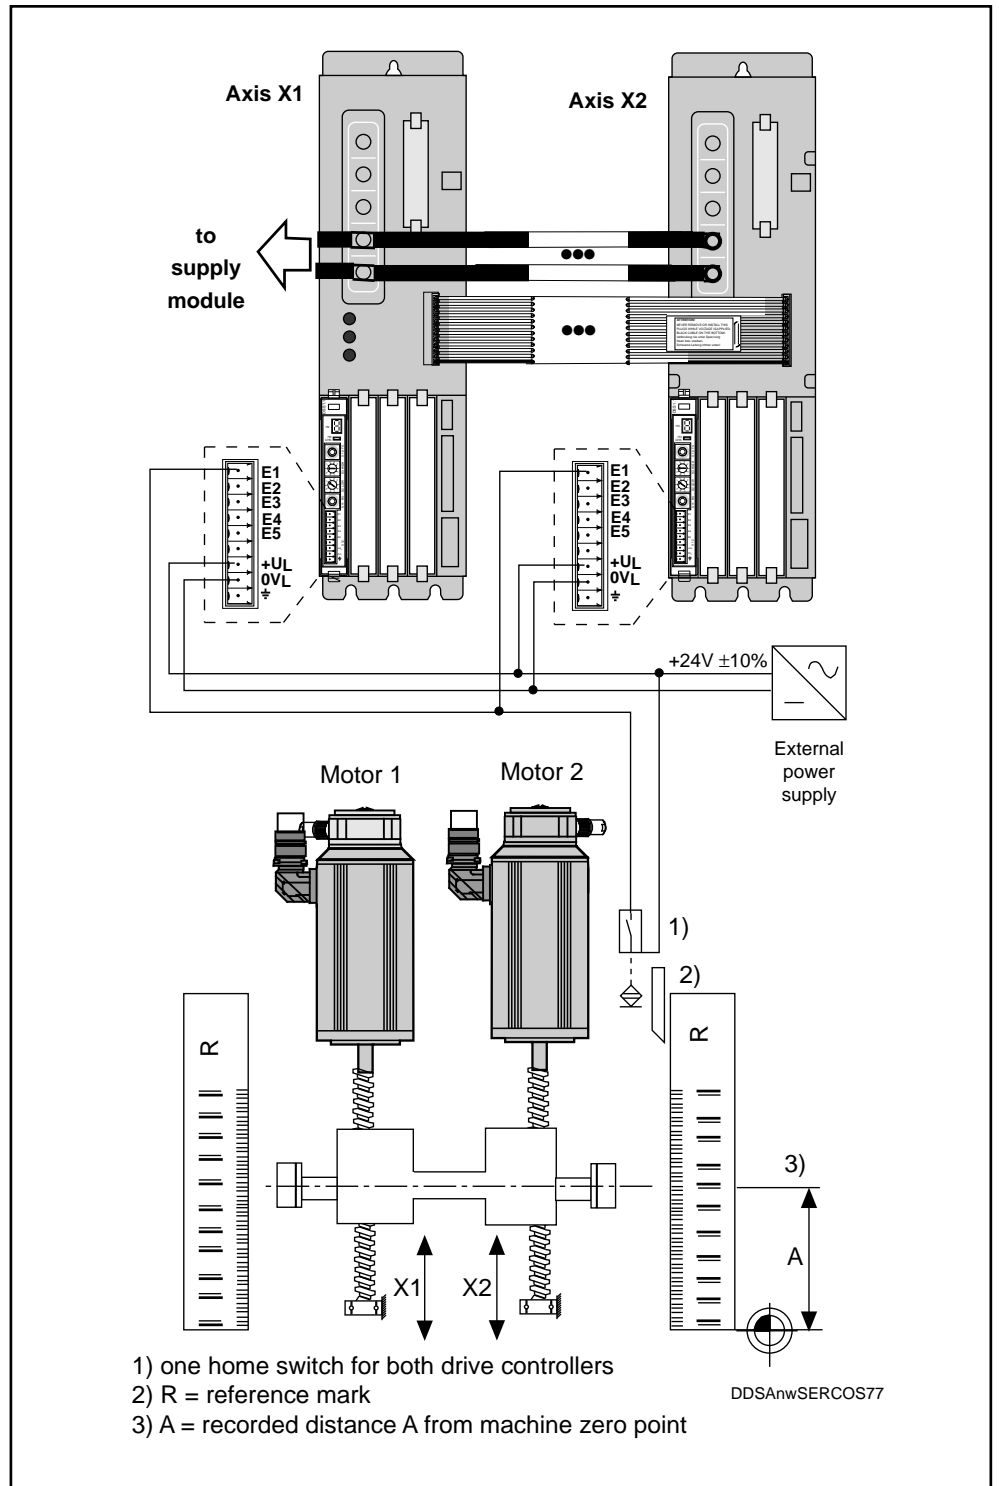

Fig. 7.66: Connection of home switch to the drive controllers of gantry axis X1/X2.
- 2) Enter distance A (see Fig. 7.66) to the machine's zero point in Parameter "Position feedback value - reference dimension 1" eintragen.
of both axes to the same values (see Section 7.16 Homing parameters). Check the connection of the home switch as shown in Fig. 7.66.